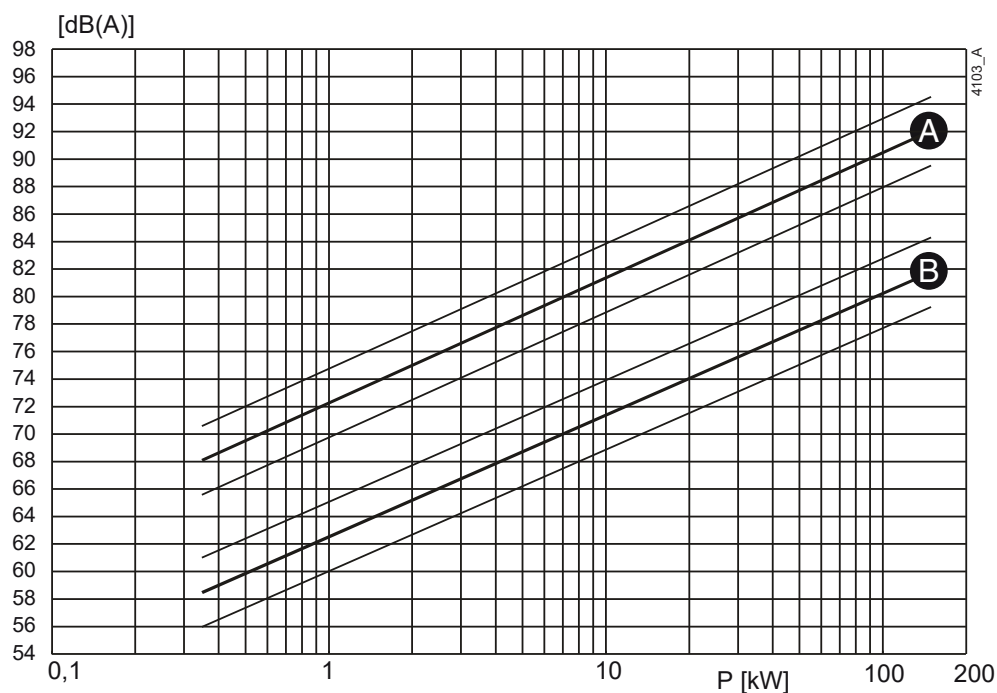
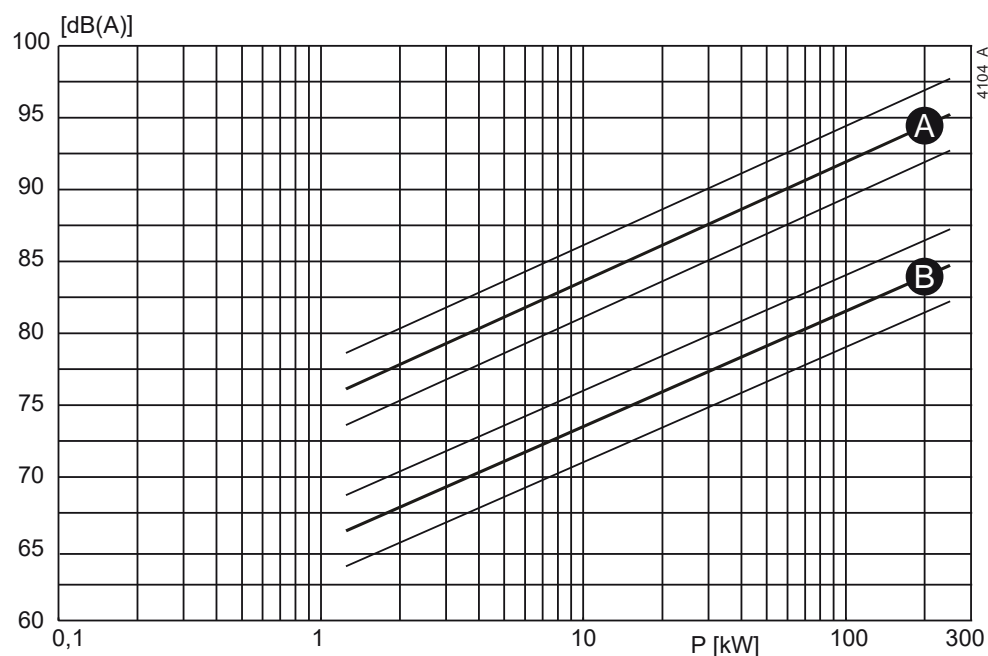

Figure 41: Noise level as function of pump power [kW] at 1450 min^{-1}
Figure 42: Noise level as function of pump power [kW] at 2900 min^{-1}
- 1 Determine the noise level (L_1) of the pump, see figure 41 or figure 42.